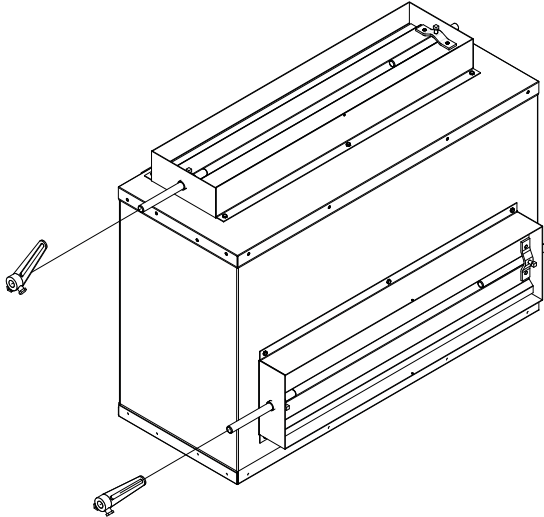

Fig. 12 — Install Crank
4. Install crank arms to each damper shaft approximately parallel to each other while maintaining state/position of dampers. (See Fig. 12.) Check for range of motion clearances before tightening.